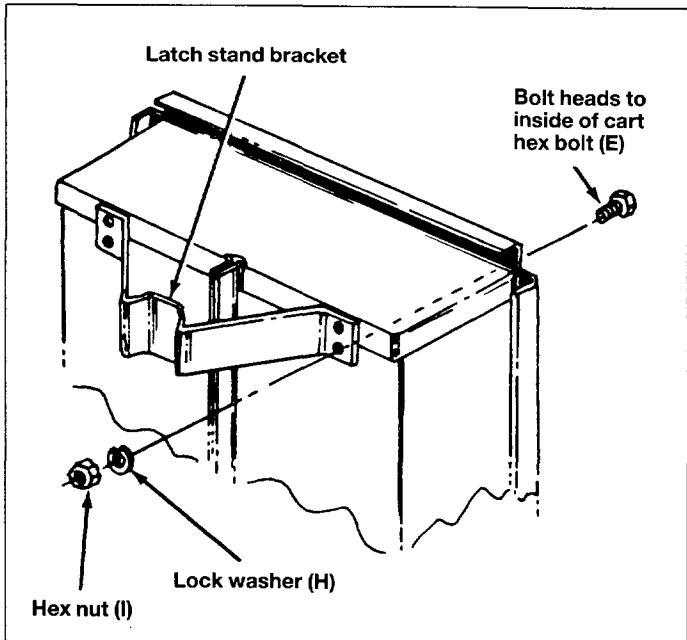

Fig. 9
14. Assemble latch stand bracket using four  $1/4'' \times 5/8''$  (6 mm  $\times$  16 mm) hex bolts (E), lock washers (H) and hex nuts (I). See figure 9.